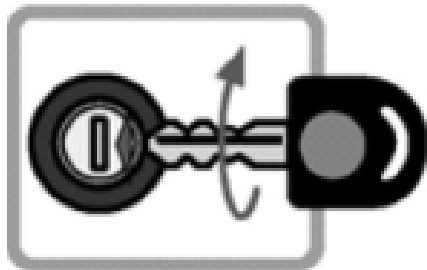

Figure 2
2. Get the ignition switch on as Figure 2 shows.